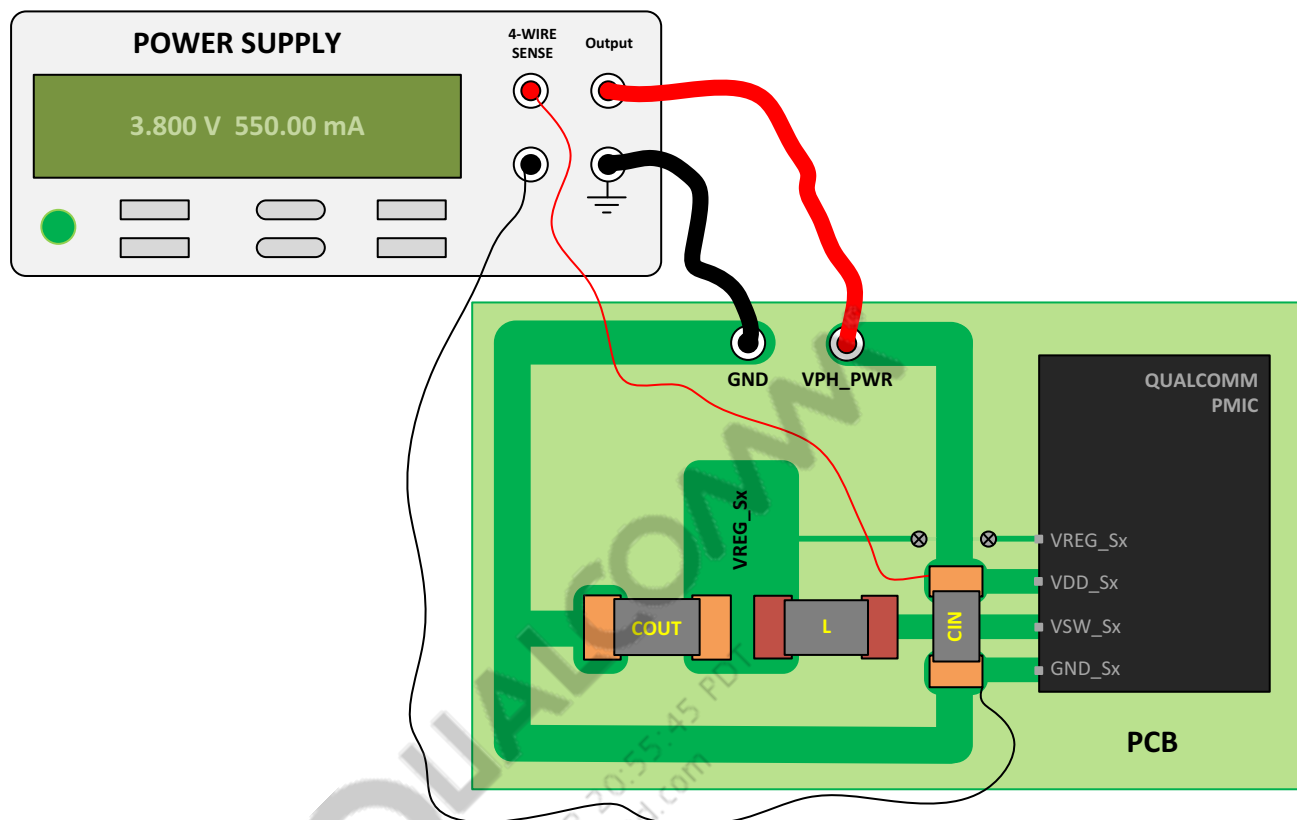

Figure 14 4-wire sensing at the input capacitor for efficiency measurements
- 4-wire sensing must be used at the input capacitor terminals to compensate for IR drop losses (Figure 14).